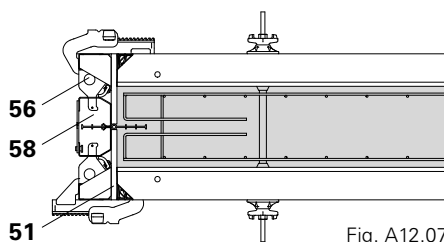

Fig. A12.07
- 2 x Outside Pieces AT (56)
- 1 x Centre Piece MTF (58)
- 1 x filler plate (51) supplied by the contractor
- (Fig. A12.07)